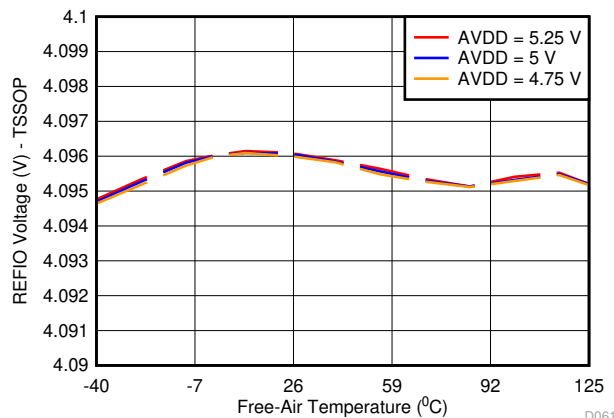
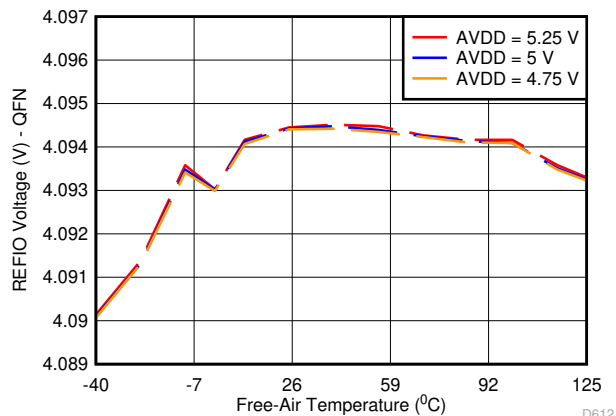
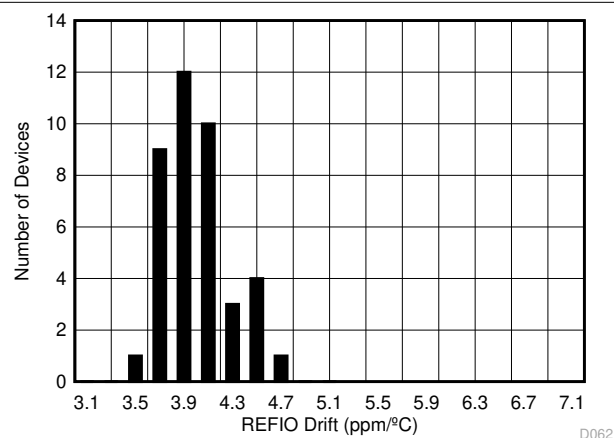

Figure 7-10. REFIO Voltage Variation Across AVDD and Temperature (PW Package)
Figure 7-11. REFIO Voltage Variation Across AVDD and Temperature (RUM Package)
Figure 7-12. Internal Reference Temperature Drift Histogram (PW Package)
The internal reference is also temperature compensated to provide excellent temperature drift over an extended industrial temperature range of -40°C to $+125^{\circ}\text{C}$. Figure 7-10 and Figure 7-11 show the variation of the internal reference voltage across temperature for different values of the AVDD supply voltage. The temperature drift of the internal reference is also a function of the package type. Figure 7-12 and Figure 7-13 show histogram distribution of the reference voltage drift for the TSSOP (PW) and WQFN (RUM) packages, respectively.